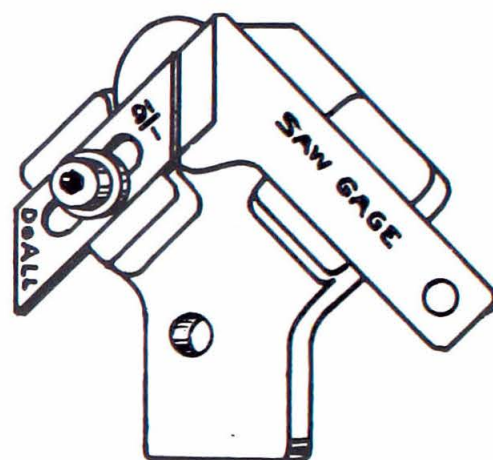

Figure 18
3. Insert the saw gage in the opposite slot as shown in Fig. 18, and adjust the insert so that it meets the two gaging edges. Then tighten the insert securely in place.